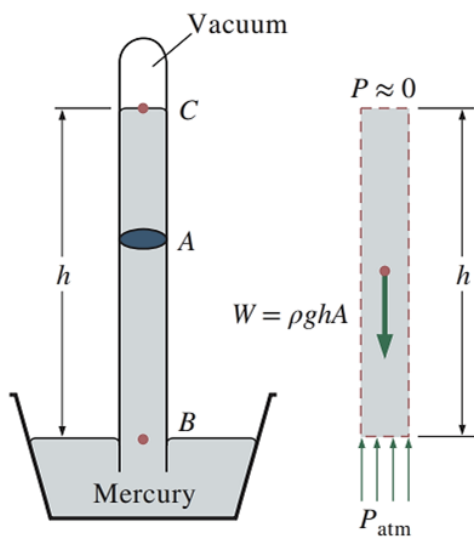

Figure 3.5: Mercury barometer. (source: Cengel & Cimbala)
Barometer consists of inverted mercury-filled tube in a mercury dish that is open to the atmosphere (Figure 3.5). The pressure at point B is equal to the atmospheric pressure. At point C, the pressure is taken as zero (0) since there is only mercury vapour above point C, in which the pressure is very low relative to P_{atm} . Atmospheric pressure is written as,